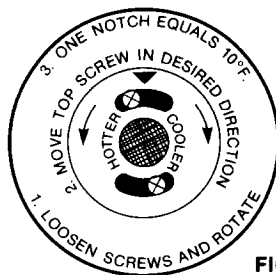

FIG. 2
**EXAMPLE:** If the oven temperature is too cool and ALL foods are requiring a longer time period to cook, the knob should be rotated to move the top screw toward the word “HOTTER”. (See Fig. 2)